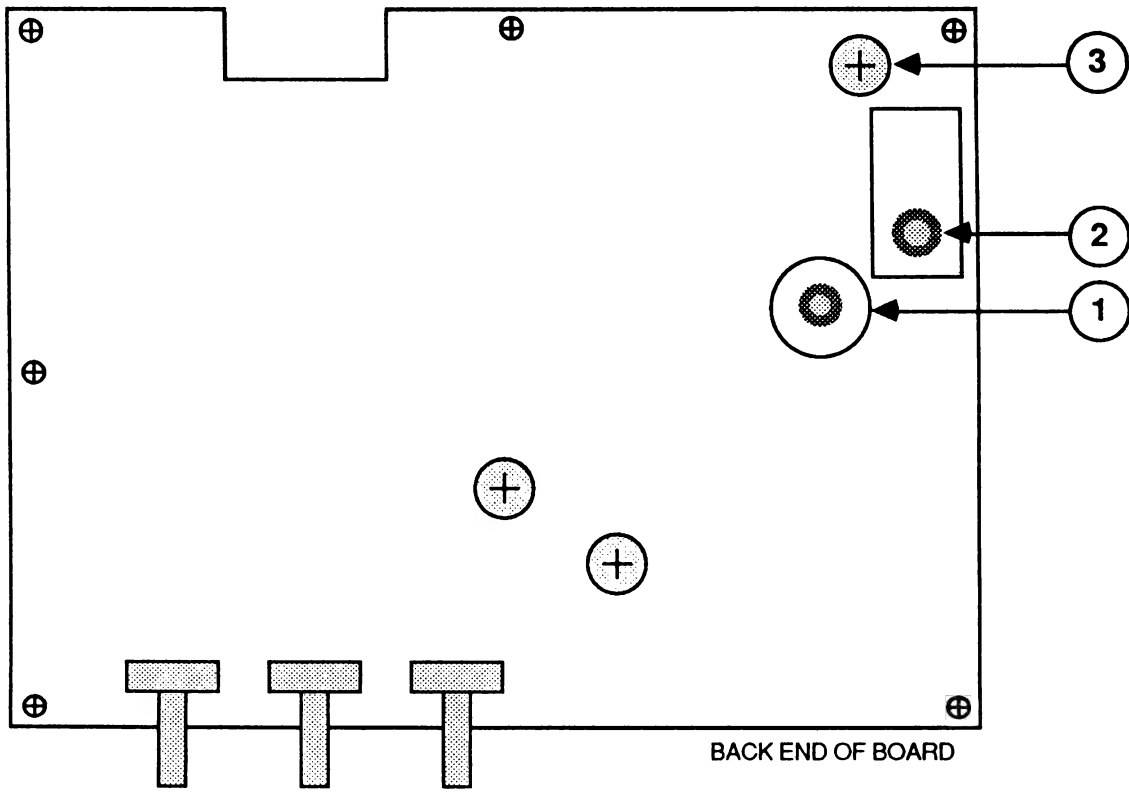

FIGURE 14
1. If the picture on the tube is not locked and centered, or if it is tearing, adjust pot R406 (see Figure 14, #3). Be careful on this adjustment, as you will be physically close to the anode and anode lead in reaching the pot.
4. **Linearity:** In most units, the coil L402 (see Figure 14, #2) will be preadjusted and sealed at the factory and you won't be able to change it. In this case, proceed to step 5 and see if the width adjustment will help the linearity. If you do have a unit with an adjustable coil, use the square plastic adjustment tool and turn it until the linearity looks correct. If you have adjusted the coil as far as it will go and the linearity is still wrong, proceed to the width adjustment, step 5.
5. **Width:** Check the width of the image on the screen. If it looks too narrow or too wide, then use the hex adjustment tool and adjust L401 (see Figure 14, #1) until the desired width is obtained. The image should be an equal distance (approximately 1/2 inch) from each side of the screen, and yet not squeezed together. If the linearity is wrong on one side, this adjustment might correct it. Remember that this is not a centering adjustment; don't squeeze the image just to get it centered.